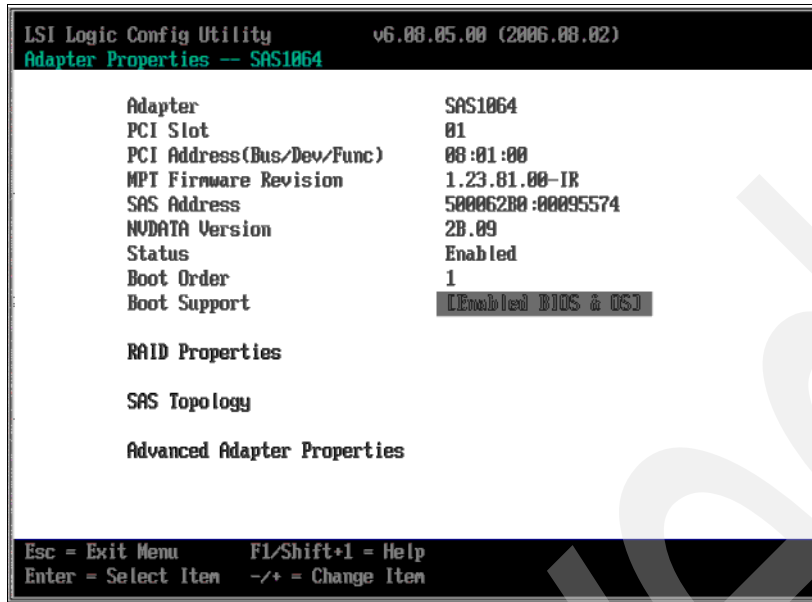

Figure 19-4 SAS Expansion Card - LSI Logic Config Utility adapter selected
4. Press the Enter key to select the SAS adapter internally connected to the SAS connectivity module in I/O Module bay 3, as shown in Figure 19-4 on page 433.